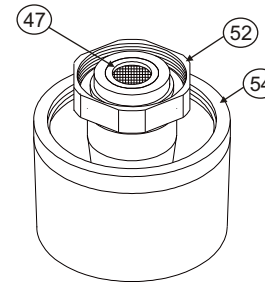

Fig.3
Using Fig.3 & 4 as a reference (page 6) The valve has integral isolation this is accessed by unscrewing the shroud (54) and pulling it back along the elbow taking care not to scratch the chrome, the 2.5mm hexagon wrench is inserted in the isolating plug and rotating it clockwise until it locks. The securing nut (52) is then removed whilst supporting the valve to stop it falling and damaging the surface below it. The valve can then be replaced or serviced as is most convenient. The valve is replaced by reversing the above procedure ensuring the O-ring is undamaged and in place.
The integral filters are fitted into the inlet elbows to the fitting. The fitting should be removed from the bases as described in the previous section the filters are then accessible for servicing as shown in Fig3. They are a friction fit into the adaptors and should be care fully prizes out washed and refitted. Failure to refit the filters may invalidate the guarantee.
To replace the flow limiters on the *hot side only*; unscrew the shroud (54) and pull it back along the elbow taking care not to scratch the chrome, unscrew the securing nut (52) which will then split the parts into two assemblies. The assembly needed is shown in Fig.3 (above), now remove the filter (47) using a small flat bladed screw driver and this will expose the Green 2.75l flow limiter (48), now replace this part with the Grey 6.0l flow limiter (55) which will first be inserted into the supplied spacer (56) making sure the limiter is inserted in the correct way with the O-ring on the top side. Now re-assemble the parts as per notes using Fig.4 as a reference.